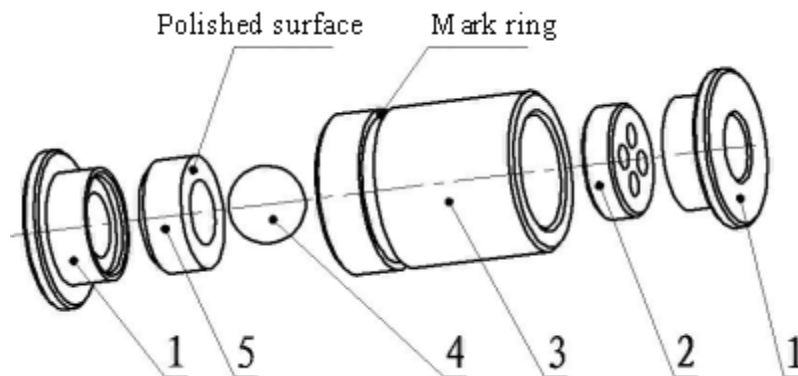

Figure 4-2: Assembly of the inlet check valve
- 4) Assemble the cleaned check valve referring to figure 4-2. Roughness of different sides of the valve seat is not the same. Identify them carefully before installation (the gem ball seats the smooth side).